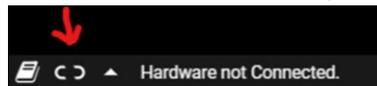

Figure 1-5. COM Port Status When Ports Are Not Connected
5. If the app does not connect to the CFG_port or the connection fails, try to connect to the target by clicking in the bottom-left corner of the app (see Figure 1-5). For mmWave SDK 3.3 and earlier, DATA_port will show connected only after the sensor is configured and sending detected objects. For mmWave SDK 3.4 and later, both CFG_port and DATA_port will show connected if the ports are valid .